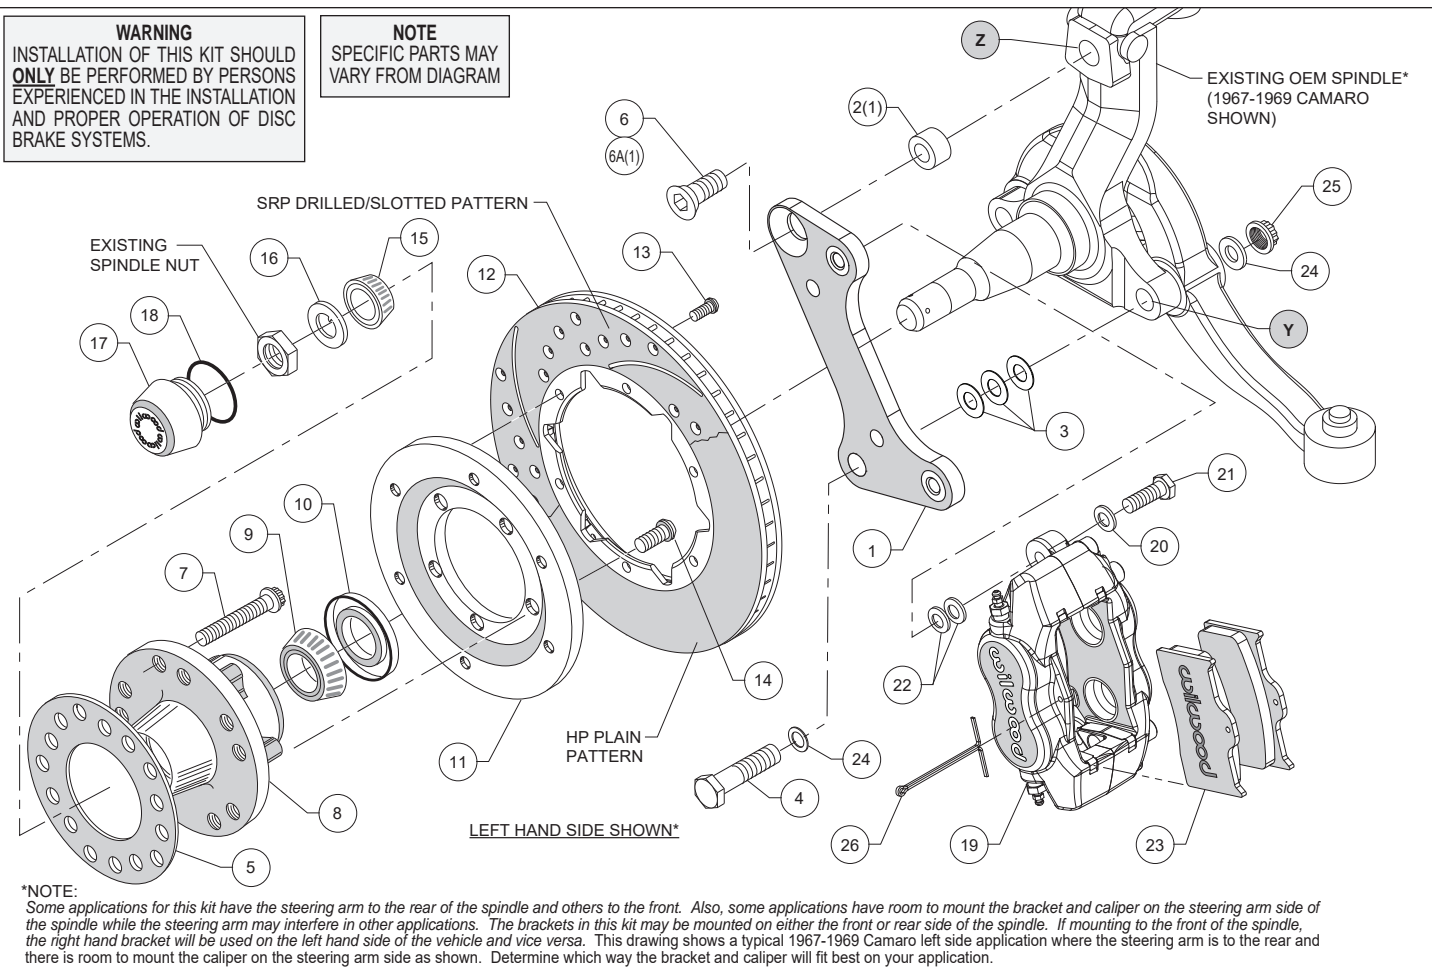
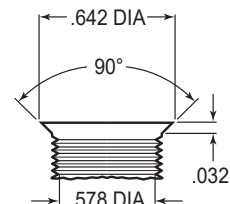

Figure 1. Typical Installation Configuration
Figure 3. Drill and Tap Detail
**Assembly Instructions** (numbers in parenthesis refer to the parts list and Figure 1 on the preceding page): **CAUTION:** All mounting bolts must fully engage clinch nuts. Be sure to check that all bolts are either flush or protruding through flanged side of clinch nut after shimming, Figure 4.
•**NOTE:** Some applications for this kit have the steering arm to the rear of the spindle and others to the front. Also, some applications have room to mount the bracket and caliper on the steering arm side of the spindle while the steering arm may interfere in other applications. The brackets in this kit may be mounted on either the front or rear side of the spindle. If mounting to the front of the spindle, the right hand bracket will be used on the left hand side of the vehicle and vice versa. Figure 1 shows a typical 1967-1969 Camaro left side application where the steering arm is to the rear and there is room to mount the caliper on the steering arm side as shown. Determine which way the bracket and caliper will fit best on your application.
•**NOTE:** Some spindles in this year range may require the following modifications (reference Figure 1 and Figure 3): Top anchor pin hole (Z) must be drilled and tapped to the dimensions as outlined in Figure 3. The lower bolt hole (Y) in the spindle used to mount the new caliper bracket, and the mating steering arm hole, must be enlarged to .50" by drilling. It is recommended these modifications be performed by a qualified machinist.
- Install wheel studs (7) into the hub (8), Photo 1. Torque to 77 ft-lb. **NOTE:** There are two five lug patterns in the hub (5 x 4.50 and 5 x 4.75). Ensure the correct hub stud pattern is being used to fit the wheel application.
- Pack the large inner bearing cone (9) with high temperature disc brake bearing grease (available from your local auto parts store) and install into the backside of the hub (8), Photo 2.
- Install the grease seal (10) by pressing into the backside of the hub (8), flush with the end of the hub, Photo 2.
- Orient the rotor (12) and the rotor adapter (11) as shown in Figure 1 and Photo 3. Attach the rotor to the adapter using bolts (13). Using an alternating sequence, apply red *Loctite*® 271 to the threads, and torque to 25 ft-lb.
- Mount the adapter/rotor assembly (11 and 12) to the hub (8) using bolts (14), as shown in Figure 1 and Photo 4. Using an alternating sequence, apply red *Loctite*® 271 to the threads, and torque to 45 ft-lb.
- Disc Brake Spindle Application Only:** Follow the instructions below, but instead use bolt (6A), and spacer (2) in the upper bolt hole location, Figure 1.
- Orient the flat bracket (1) as shown in Figure 1 and Photo 5, and install using bottom bolt (4), washers (24), and nut (25), Figure 1. Initially place three .032" thick shims (3) between the bracket and spindle. Install the upper bolt (6 or 6A), Photo 6. Temporarily tighten bolts. **NOTE:** *The bracket must fit squarely against the mounting surfaces on the spindle.* Inspect for interference from casting irregularities, machining ridges, burrs, etc. Ensure that the flanged heads of the clinch nuts in the bracket are facing outboard. Temporarily install the hub/rotor assembly. Check that the bracket is aligned parallel to the rotor, Photo 7. If not, adjust by adding or subtracting shims (3) on the lower bolt between the bracket and spindle, Figure 1. Once the bracket alignment is correct, remove the upper bolt (6 or 6A), apply red *Loctite*® 271 to the bolt threads, and torque to 120 ft-lb. Torque the lower lock nut to 65 ft-lb.
- Pack the small outer bearing cone (15) with high temperature disc brake bearing grease and install into hub (8). Slide the hub/rotor assembly onto the spindle. Secure using spindle washer (16) and OEM spindle nut, Photo 8. Adjust bearings per OEM specifications. Install saved OEM nut lock (if any) and a new cotter pin (not included).
- Screw dust cap (17) into hub (8). Friction created by the o-ring (18) on the dust cap keeps it from unscrewing. **NOTE:** *The O.D. of the existing OEM spindle washer may be larger than the I.D. of the dust cap not allowing it to seat against the hub face. Therefore, use the spindle washer (16) supplied with the kit instead of the OEM washer.*
- NOTE:** *Please reference the caution statement at the beginning of the assembly instructions.* Mount the caliper (19) onto the caliper bracket (1) using bolts (21) and washers (20), as shown in Figure 1. Initially place two .035" thick shims (22) on each bolt between the caliper and the bracket, Photo 9. Temporarily tighten the mounting bolts and view the rotor (12) through the top opening of the caliper. The rotor should be centered in the caliper, Photo 10. If not, adjust by adding or subtracting shims (22) between the bracket and the caliper. Always use the same amount of shims